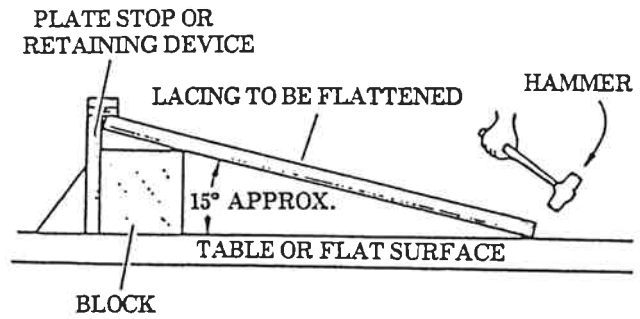

Fig. 2-17 Shaping Lacing Ends
4. When forming lacing ends with a hammer, the lacing will have a tendency to move backward. A holding device similar to the one shown in Fig. 2-17 should be used to hold the lacing in place. This will make it easier to obtain the desired shape of the lacing end. Be sure that both ends of the lacing are flattened in the same plane (not twisted).